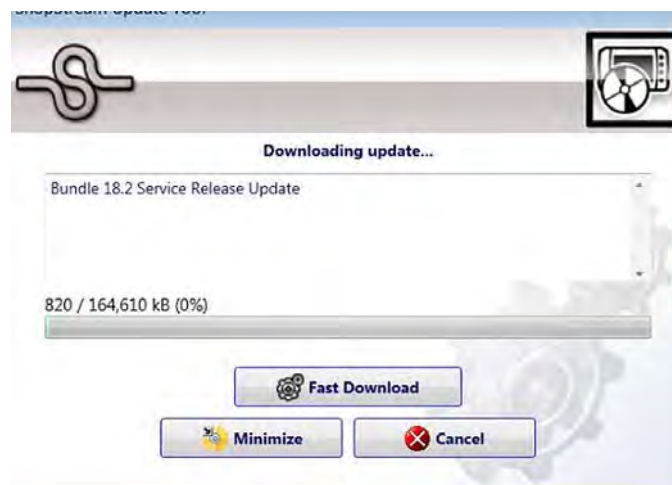

Figure 15-7 Typical - Update status window
- If updates are found, they will automatically begin to download (Figure 15-7).
To view the update status window (Figure 15-7), select **Show Progress** from the SST icon menu (Figure 15-2).
The percentage status bar may not always be displayed while downloading (Figure 15-7).